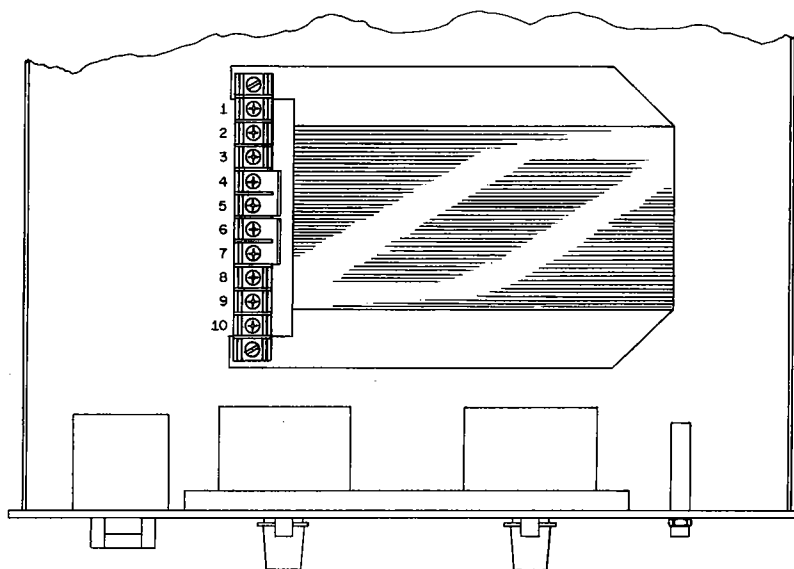

FIG. 2-4 A-C INPUT SOURCE VOLTAGE SELECTION, ATE 3/4 RACK GROUP.
- 2-5 This power supply is normally supplied for operation on a single phase, nominal 115V a-c line. For conversion to other a-c source voltages, refer to FIG. 2-4. Select your nominal source voltage and change the links on the barrier strip of T201 according to the table provided in FIG. 2-4. The circuit breaker (CB101) remains equally effective at all input voltages.